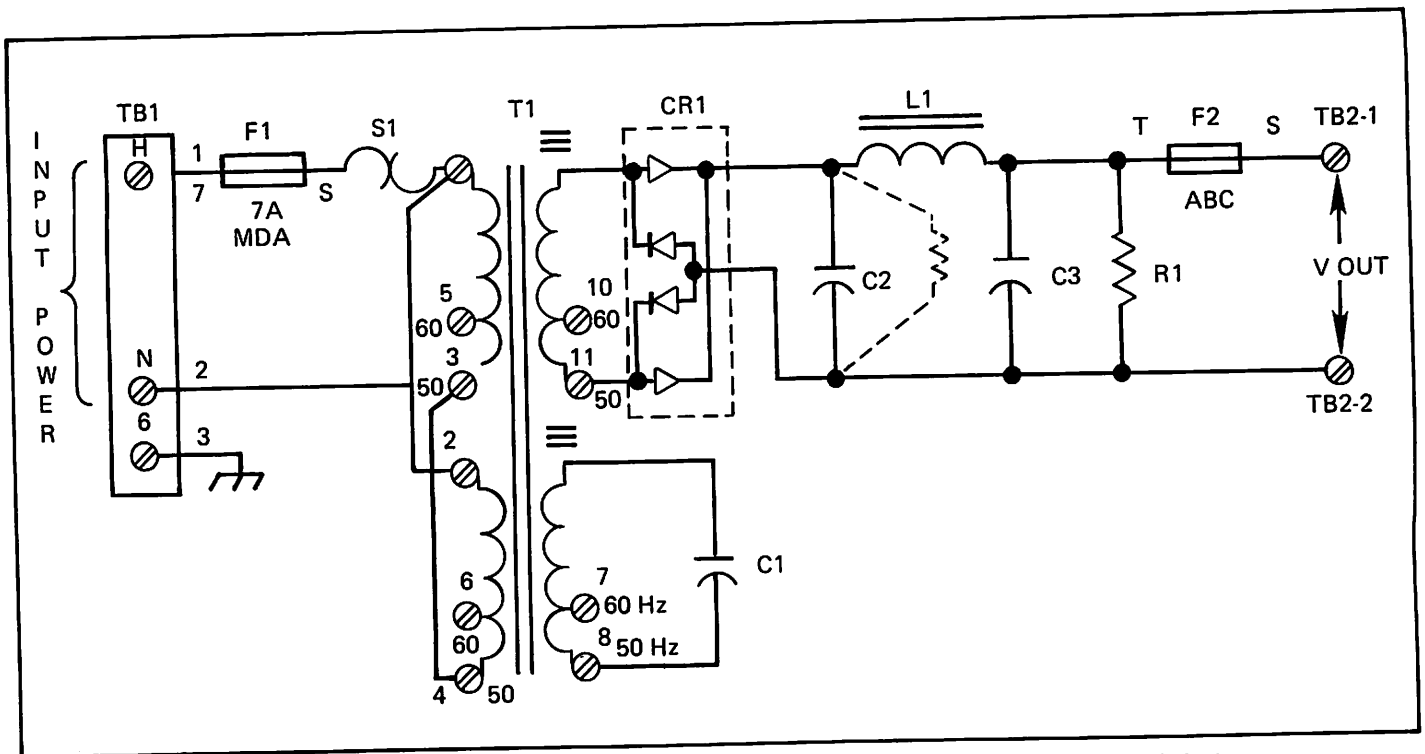

FIGURE 2 — NPSI03/04 Schematic Showing Adjustments Needed for 50/50 Hz Selection
4. Position C1 and CR1 leads per Table B and Figure 2.